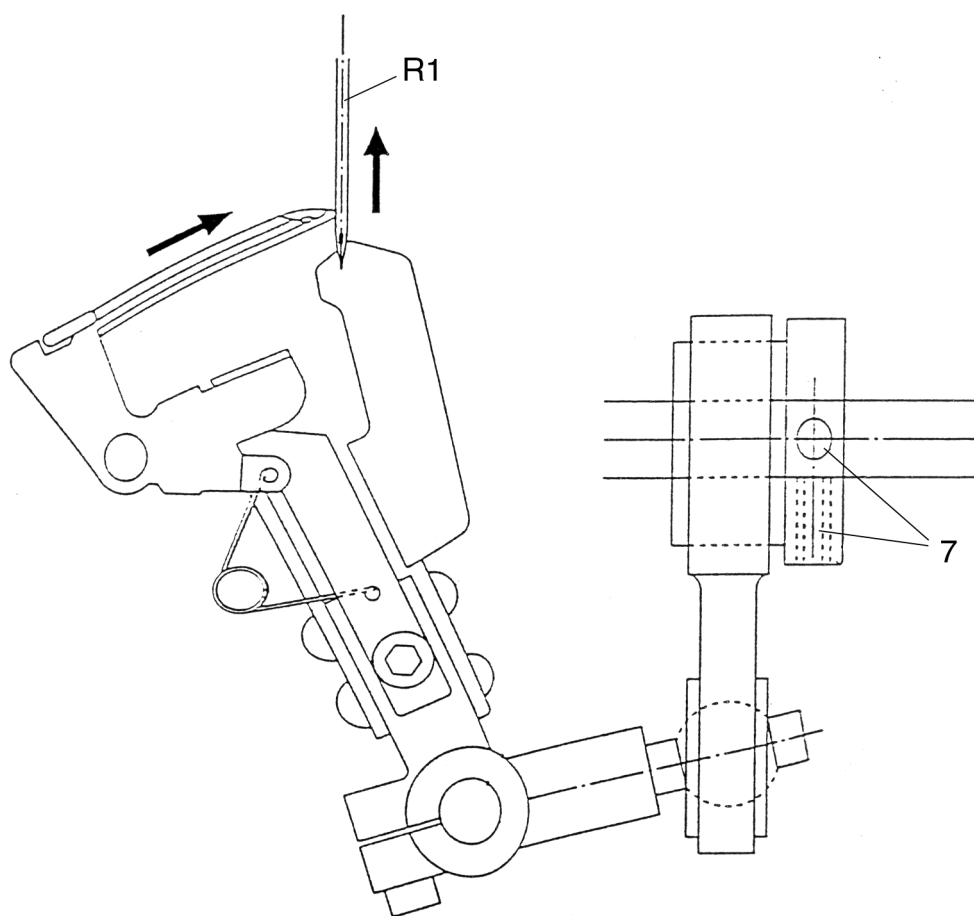

Fig. 22
- Slightly loosen both screws 7 on the drive eccentric (fig. 22).